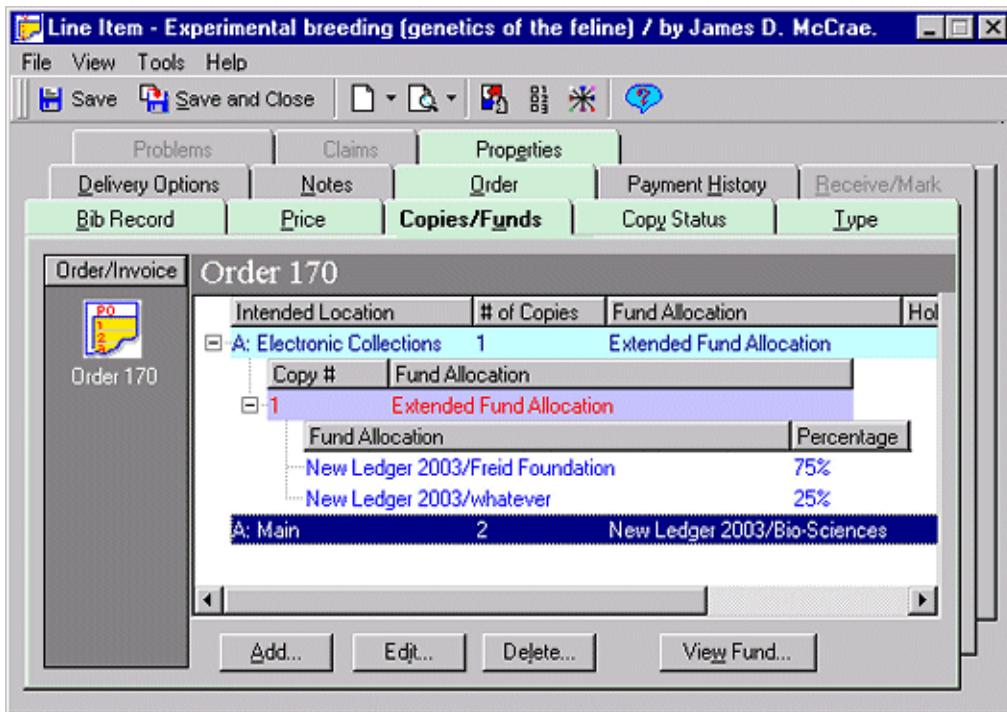

Figure 6-37. Copies/Funds tab, hierarchy
5. If your entries are complete and you will not be using the Extended Fund Allocation feature, click the **Close** button to return to the **Copies/Funds** tab of the **Line Item** dialog box (see Figure 6-37). Otherwise, continue with Procedure 6-13, Editing extended fund allocations or Procedure 6-14, Adding an extended fund allocation.
Result: The fund's allocation is changed. The **Copies and Funds** dialog box closes, and all copies and funds for the item display in a hierarchical structure on the **Copies/Funds** tab of the **Line Item** dialog box (see Figure 6-37).
Result: An extended fund allocation is added to a copy. The **Copies and Funds** dialog box closes, and all copies and funds for the item display in a hierarchical structure on the **Copies/Funds** tab of the **Line Item** dialog box (see Figure 6-37).
The copy and fund information displays in a hierarchical structure on the **Copies/Funds** tab (Figure 6-37) after fund allocations have been completed.